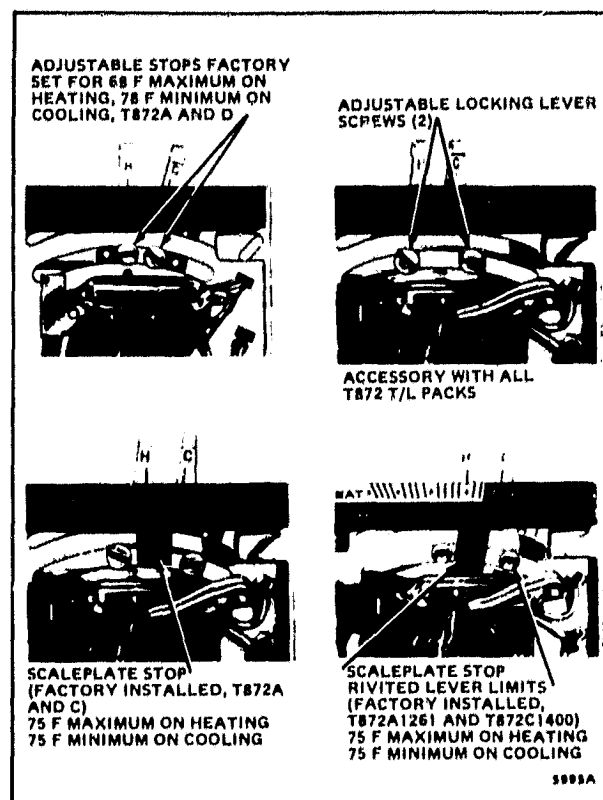

FIG. 8—RANGE LIMITING AND LEVER LOCKING METHODS.
6. If the thermostat provides the optional locking lever assembly, install the 2 self-tapping screws (Fig. 8) in the lever arms, if desired.